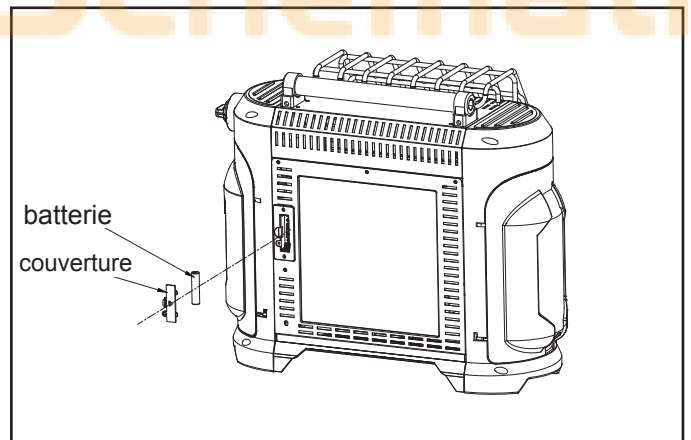

Fig. 3 - Emplacement de la batterie pour le module d'allumage
2. Insert AAA battery (included) into the battery compartment as shown in figure 3.